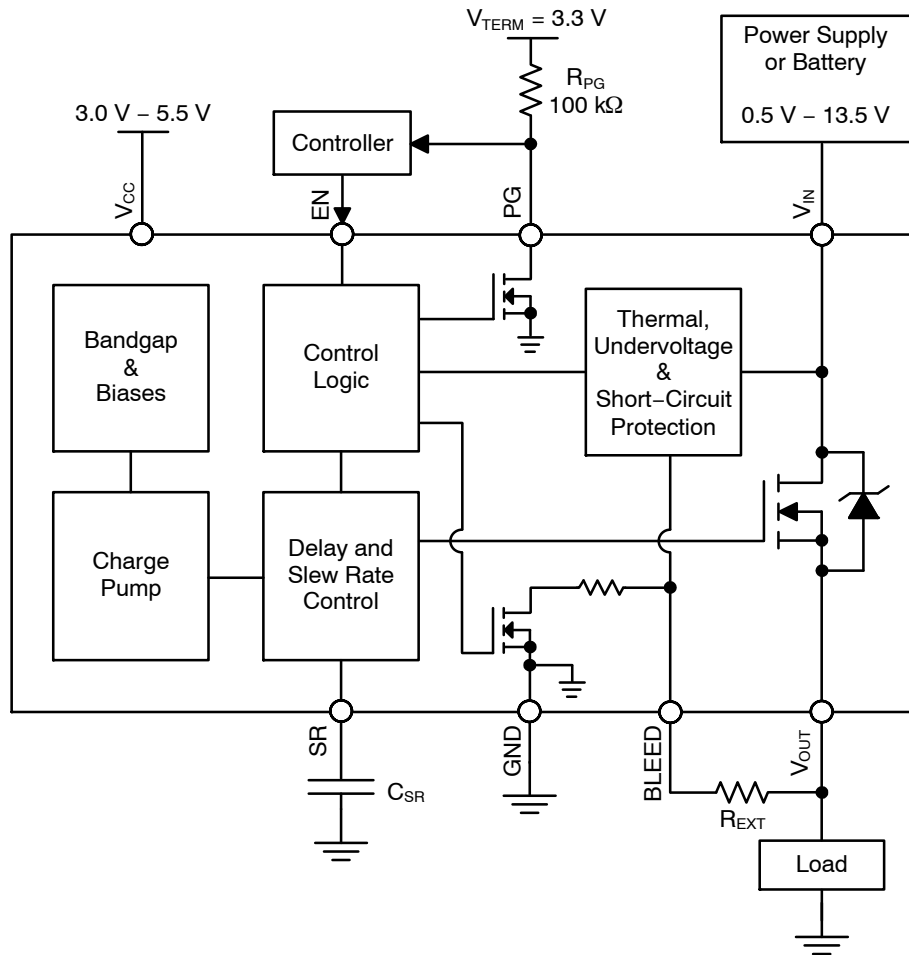
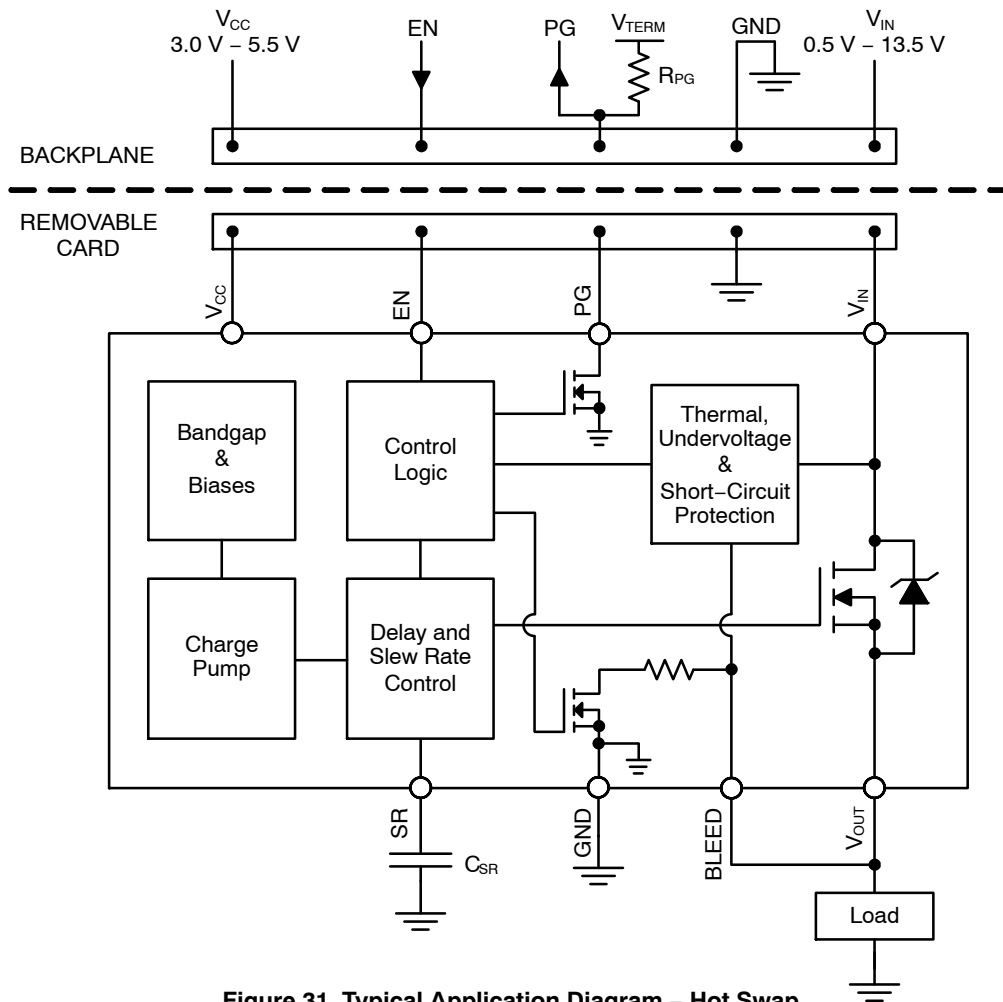

Figure 30. Typical Application Diagram – Load Switch
Figure 31. Typical Application Diagram - Hot Swap
It is required that the BLEED pin be connected to V_{OUT} either directly (as shown in Figure 31) or through an external resistor, R_{EXT} (as shown in Figure 30). R_{EXT} should not exceed 1 k Ω and can be used to increase the total bleed resistance.
The NCP45560 devices have a power good output (PG) that can be used to indicate when the gate of the MOSFET is fully charged. The PG pin is an active-high, open-drain output that requires an external pull up resistor, R_{PG} , greater than or equal to 1 k Ω to an external voltage source, V_{TERM} , compatible with input levels of other devices connected to this pin (as shown in Figures 30 and 31).
The slew rate can be decreased with an external capacitor added between the SR pin and ground (as shown in Figures 30 and 31). With an external capacitor present, the slew rate can be determined by the following equation:
Once active, the circuitry monitors the difference in the voltage on the V_{IN} pin and the voltage on the BLEED pin. In order for the V_{OUT} voltage to be monitored through the BLEED pin, it is required that the BLEED pin be connected to V_{OUT} either directly (as shown in Figure 31) or through a resistor, R_{EXT} (as shown in Figure 30), which should not exceed 1 k Ω . With the BLEED pin connected to V_{OUT} , the short-circuit protection is able to monitor the voltage drop across the MOSFET.